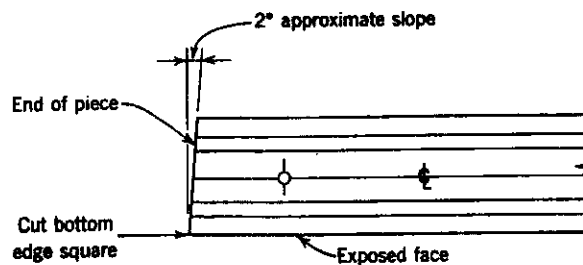

Figure 4. Beveled End Cut. (Beveled end cut is optional.)
- 6.2 Each piece shall be square-end trim. When random lengths are furnished, each piece must be square-end trimmed across the face so that at least 90% of the pieces will be within 3/64 inches of square. The vertical end cut may vary from square to the bevel cut shown in Figure 4.